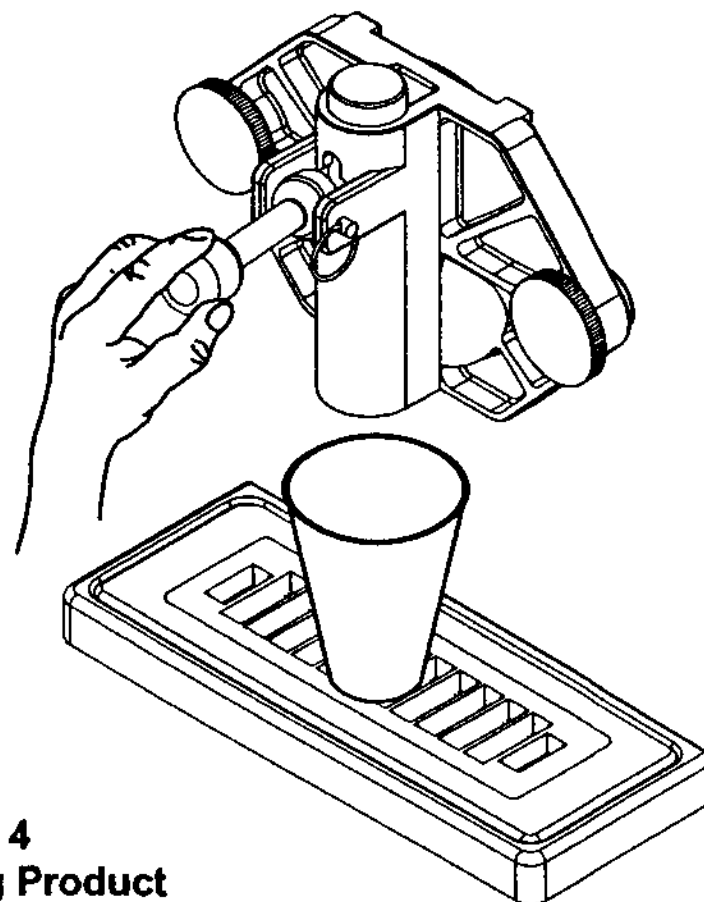

Fig. 4
2. Set the control switch to the "CLEANOUT" position and dispense all product from the freezing cylinder by pulling downward on the spigot handle (Fig. 4) to empty the machine.